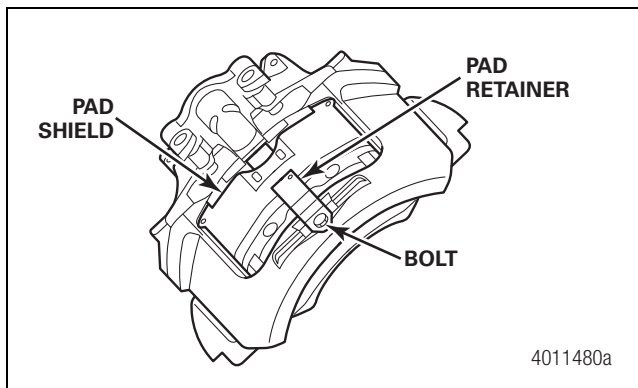

Figure 5.26
4. Install the pad retainer bolt and tighten to 25-30 lb-ft (34-40 N•m). Figure 5.26.